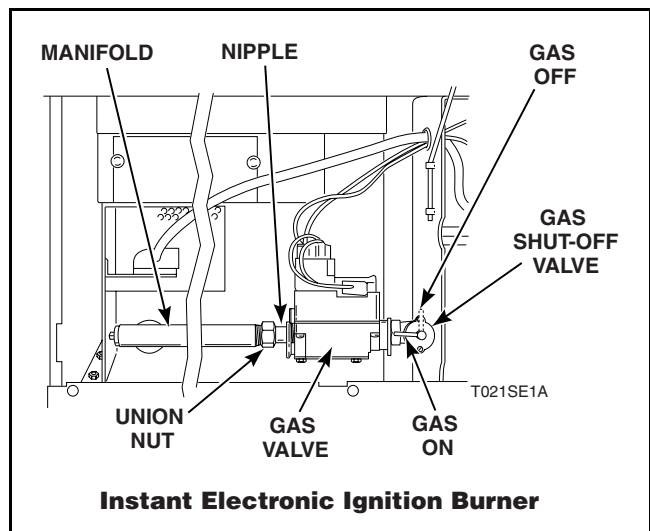

Figure 23
Refer to *Figure 23*.
- b. Close gas shut-off valve. Refer to *Figure 23*.